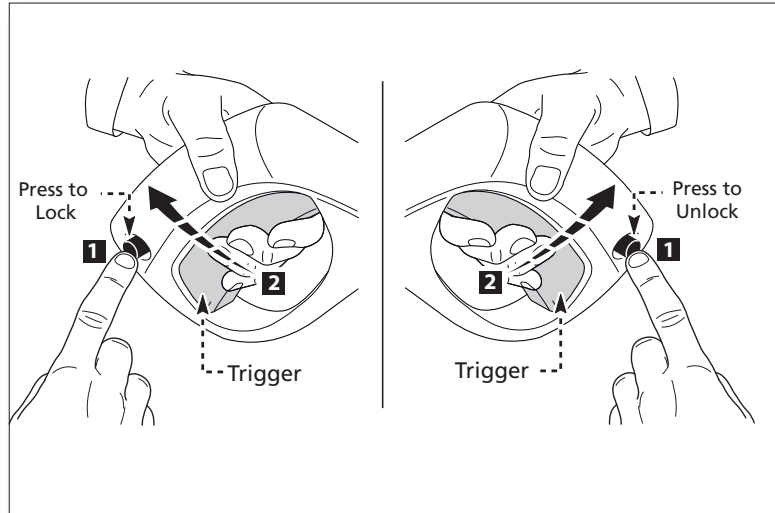

Fig. 22
- Release the safety lock button on the spray gun by pressing the safety lock button from right to left (**Fig. 22**). While pointing the spray gun in a safe direction, squeeze the trigger on the spray gun until there is a steady stream of water, letting the water and air out of the hose.